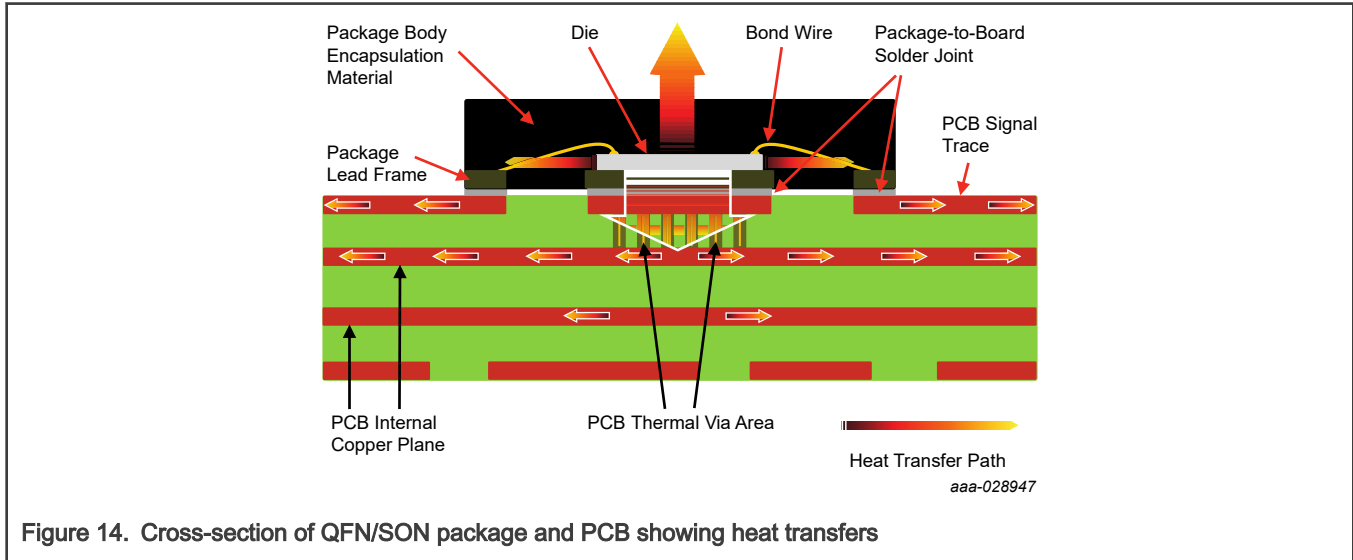

Figure 14. Cross-section of QFN/SON package and PCB showing heat transfers
PwrQFN packages with an exposed pad (EP) on the bottom, enhance the thermal and electrical performance of the package. The die is attached directly to the exposed pad thus providing an efficient heat removal path, as well as excellent electrical grounding to the PCB as shown in Figure 14. To further optimize thermal performance, the PCB design should include thermal vias and a thermal plane(s).